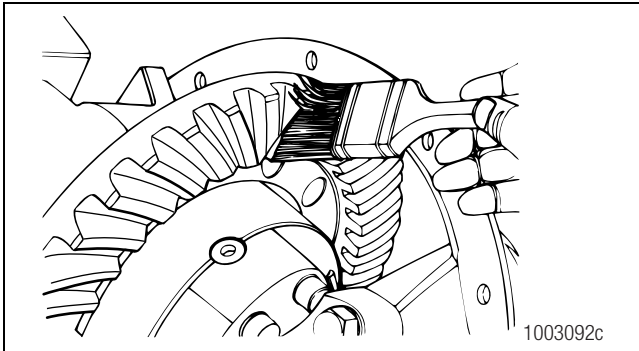

Figure 5.50
- Apply a marking compound onto approximately 12 gear teeth of the ring gear. Rotate the ring gear so that the 12 gear teeth are next to the drive pinion. Figure 5.50.